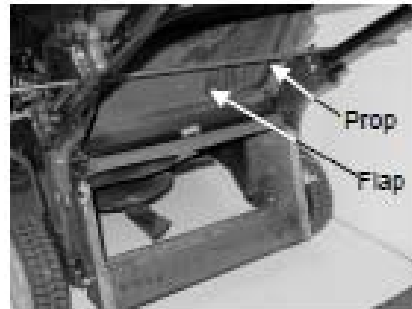

Figure 10. Blade change
### Blades - refer figure 10.
### Blade Change- refer figures 10 and 11.
- With the engine stopped, spark plug lead and grass catcher or mulch plug removed, open the discharge flap and prop in the open position. Refer to figure 10.
- Rotate the cutting assembly carefully to access the blade retaining bolts. Refer to figure 10.